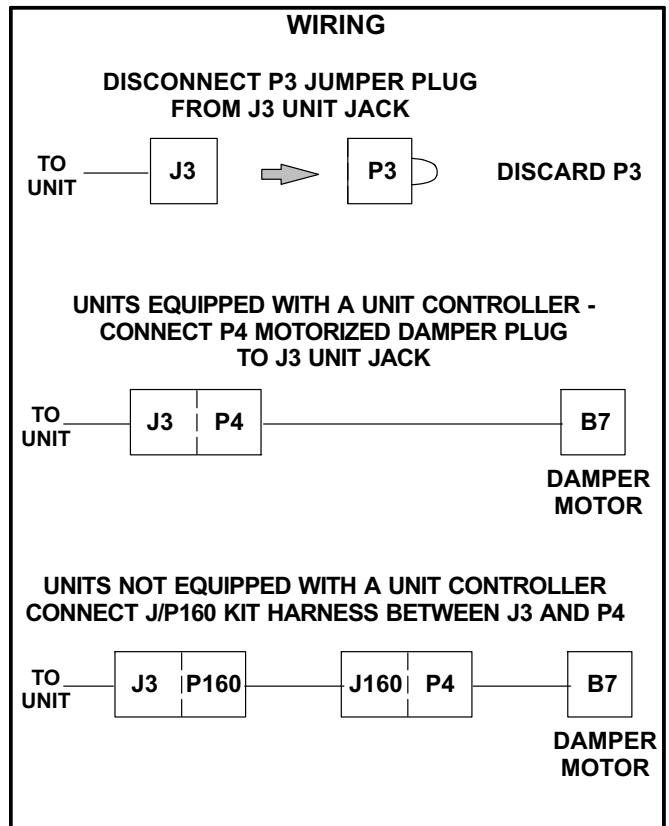

FIGURE 7
- 9- *Units NOT equipped with an A55 Unit Controller* - Connect the kit jumper harness plug P160 to unit jack J3 and jumper jack J160 to the damper motor plug P4. See figure 7.